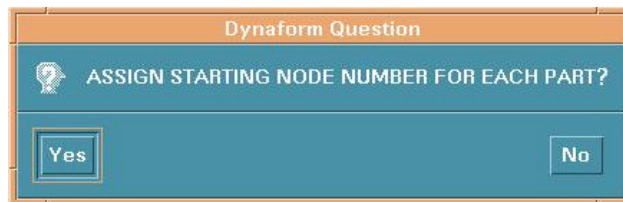

Figure 6.4.5 Starting Node Number Question
- Another DYNAFORM Question window appears, see Figure 6.4.5.